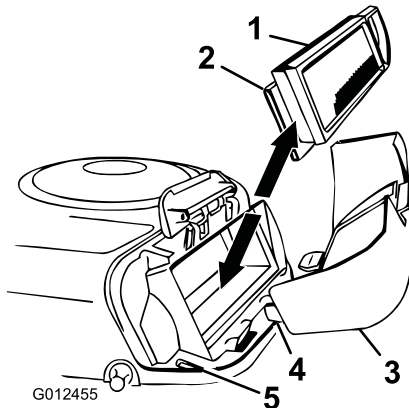

Figure 23
4. Carefully slide the paper element and the foam element from the blower housing (Figure 23).
2. Align the tabs on the air cleaner cover with the slots of the blower housing (Figure 23). Hook the handle onto the cover and press down on the handle to lock the cover in place.